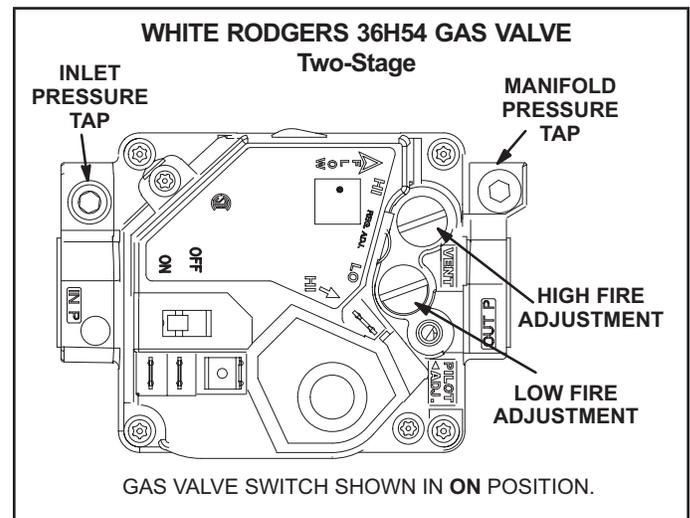

FIGURE 17
### Gas Valve Operation for Honeywell VR8205Q / VR8305Q and White Rodgers 36H54 (FIGURE 17)
- 5 - Turn gas valve switch to **OFF**. See FIGURE 17.
- 6 - Wait five (5) minutes to clear out any gas. If you then smell gas, **STOP!** Immediately call your gas supplier from a neighbor's phone. Follow the gas supplier's instructions. If you do not smell gas, go to the next step.
- 7 - Turn gas valve switch to **ON**. See FIGURE 17.